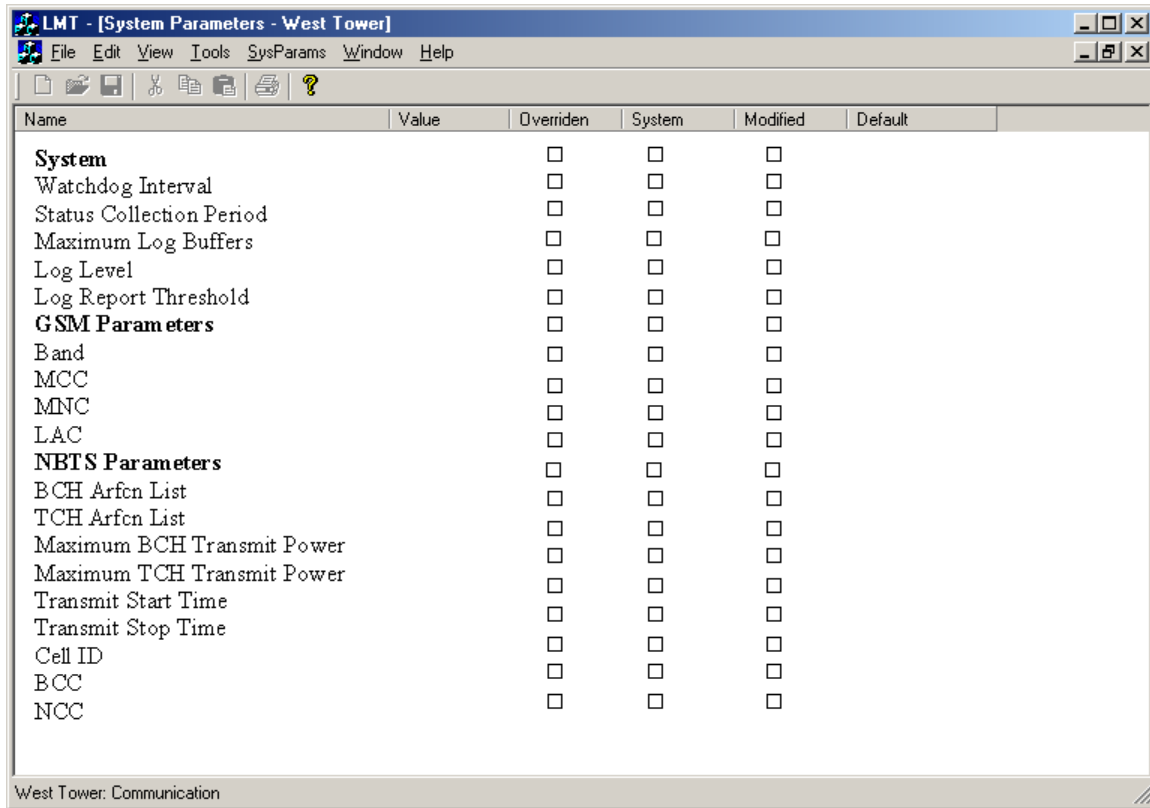

Figure 13. System Parameters Dialog Box
- Right-click on the selected nanoCell and select “Parameters” from the drop-down menu. This will bring of the dialog box as shown in Figure 13.